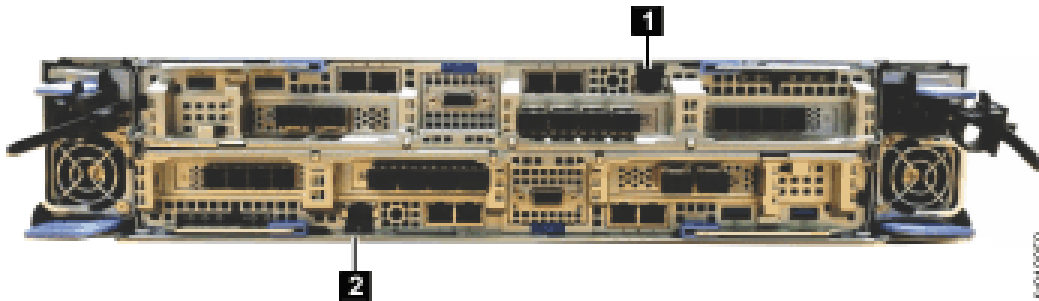

Figure 67. Technician port
4. Disconnect the personal computer from all networks. Connect an Ethernet cable between the port of the personal computer that is configured in step “2” on page 99 and the technician port in the left canister (1) that is shown in Figure 67 on page 99.